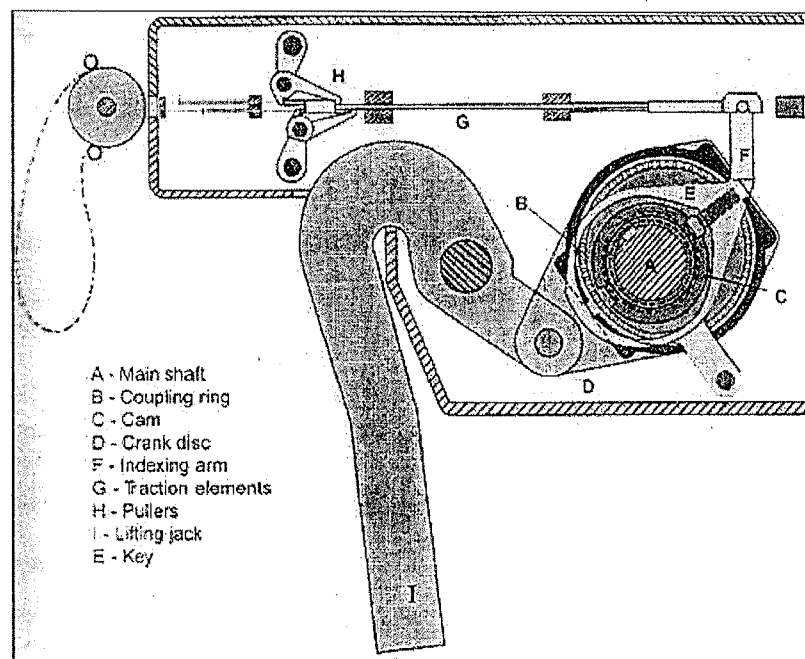

Figure 03.
- a) Figure 03. Shows a rotary dobby mechanism. Explain the working principle of this rotary dobby shedding mechanism. Describe the role of the cam unit, coupler ring, switching key, and reading mechanism in controlling the movement of the heald frames. (07 marks)